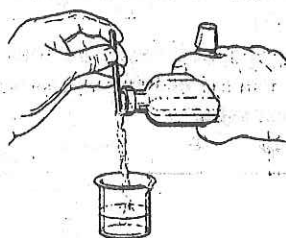

Figure 1. Pouring from a reagent bottle into a beaker.
- 3b. When you are pouring a liquid from a reagent bottle into a beaker, the reagent should be poured slowly down a glass stirring rod. (See figure 1) When you are transferring a liquid from one beaker to another, you can hold the stirring rod and beaker in one hand.